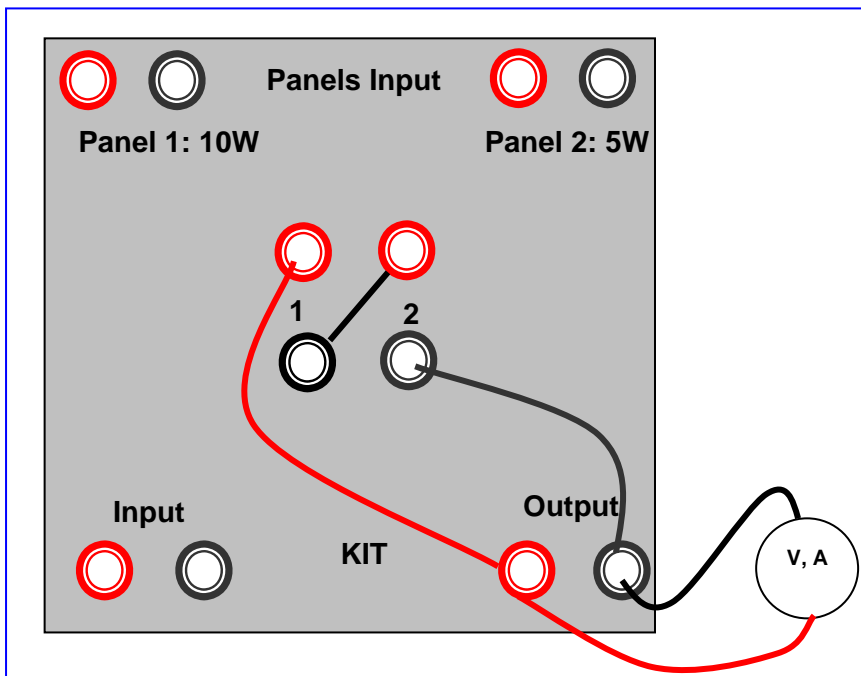

Figure 2.4 Modules of different size are connected in series
- Connected in series (Figure 2.4)